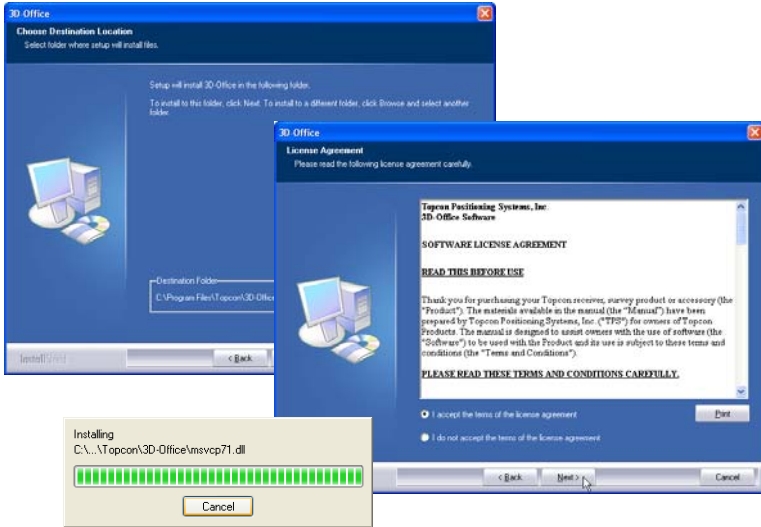

Figure 1-2. Install 3D-Office
4. Select a new destination folder or keep the default folder in which to install 3D-Office, and click **Next** (Figure 1-2).
5. After reading the License Agreement, click “I accept...” and click **Next**. The installation process begins (Figure 1-2).